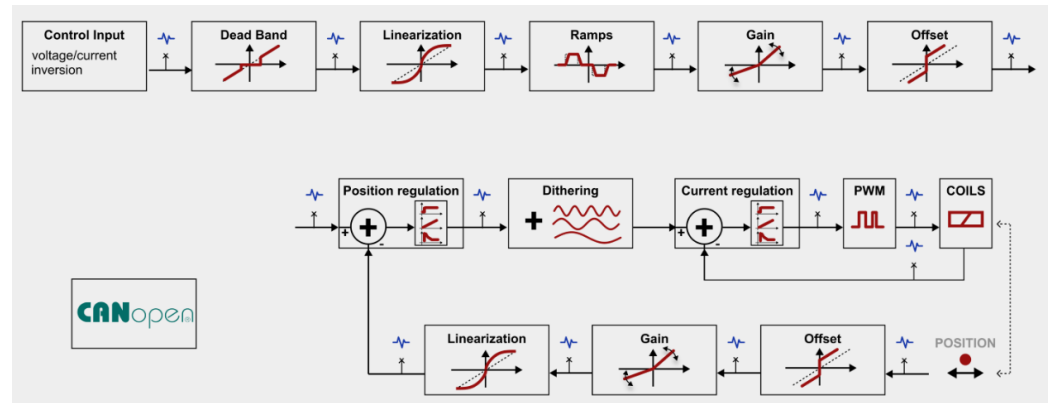

Figure 8-9: Display in the form of a flowchart using E02 as an example
- › Block diagram, graphically oriented, shown in Figure 8-9.